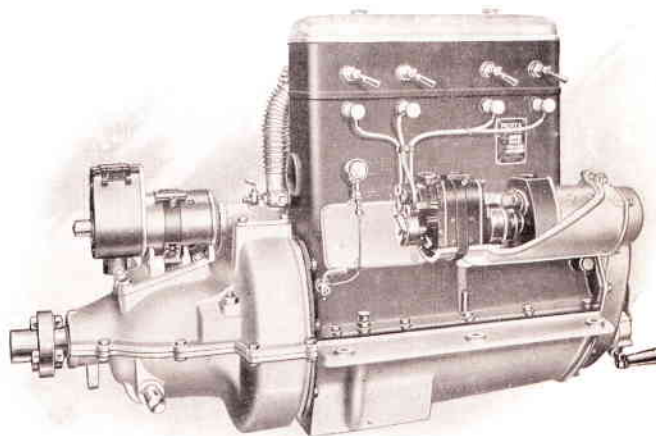

Figure 8.
**Electric Starting and Lighting.** Can be supplied at extra cost, the necessary fittings being easily fitted to the engine. The starter can be placed on the reverse gear cover, which has been specially designed as a bedplate for it. The dynamo is fitted beside and forward of the magneto, where it is held in place on a special bracket. (See Figure 8.)